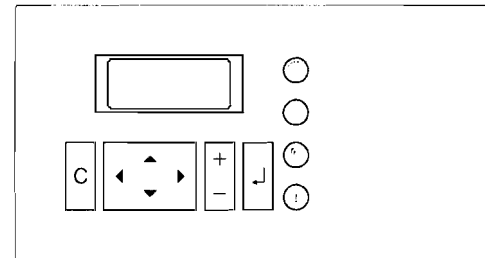

Fig. 6. The XL40A1 External MMI
- the XL40A1 External MMI (see Fig. 6) and